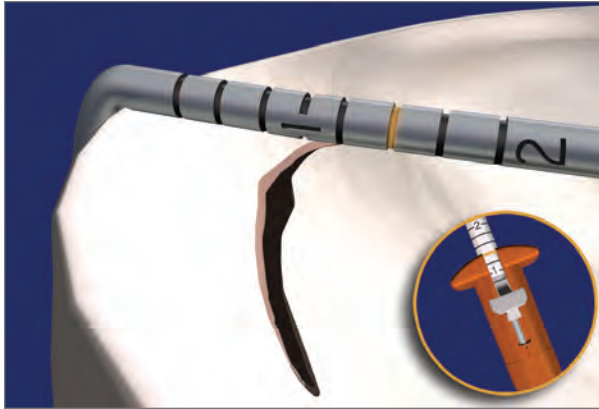
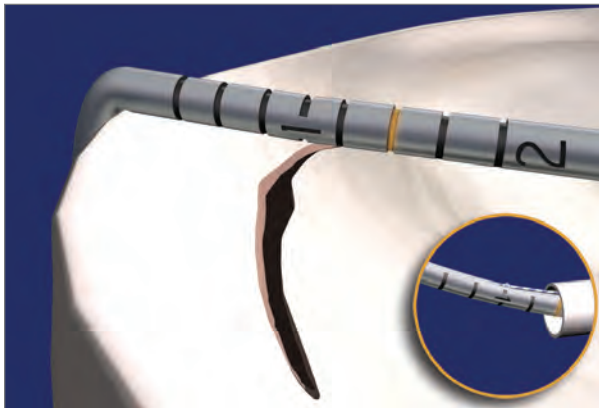

Figure 3. Establish depth limit using the adjustable depth limiter and depth probe.
Figure 4. Use laser marks as a reference.
1. Use the meniscal depth probe to determine the desired depth limit. Place the tip of the probe at the meniscosynovial junction and determine the width of the meniscus at the desired entry point for the delivery needle. In the average size knee, a depth of 14 mm is usually adequate. Adjust the depth penetration limiter to the desired length by pressing the depth limiter button (**Figure 3**). This length can be adjusted outside or inside of the joint. The laser marks on the tip of the needle can also be used as a reference (**Figure 4**).